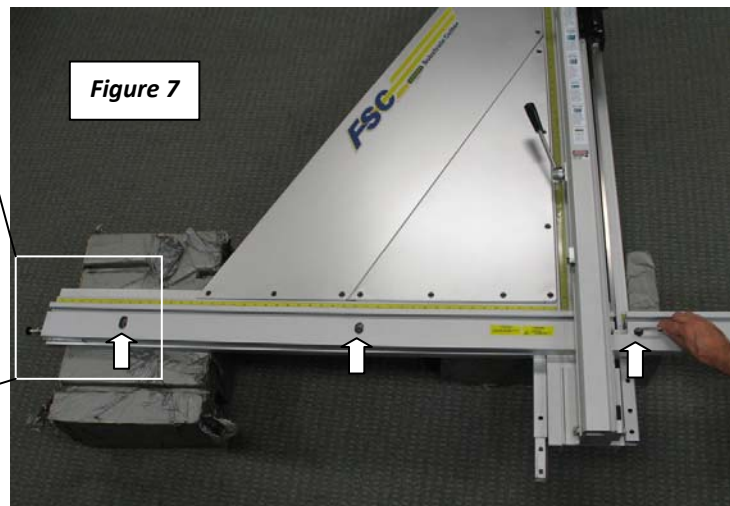

Figure 7
7. Insert three (3) M8 x 25 button head screws (L) with flat washers (O) into the remaining three holes in the Horizontal Material Bar, two on the left side, and one on the right (Figure 7). Do not completely tighten these screws yet, as they will need to be slightly loose during the squaring procedure later.